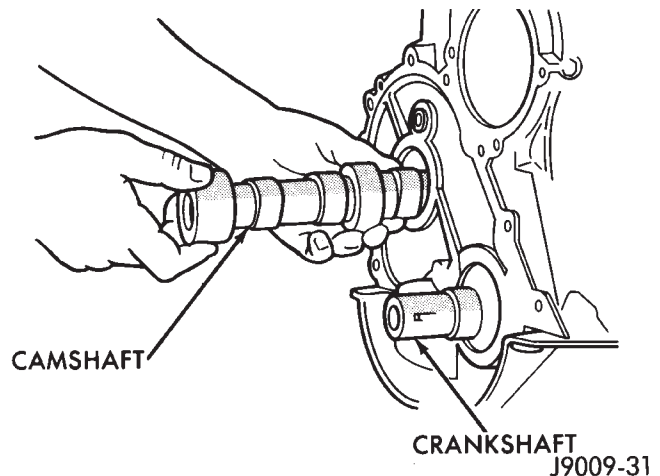

Fig. 44 Camshaft
(5) Remove the distributor and ignition wires.
(6) Remove the engine cylinder head cover.
(7) Remove the rocker arms, bridges and pivots.
(8) Remove the push rods.
(9) Remove the engine cylinder head and gasket.
(10) Remove the hydraulic valve tappets from the engine cylinder block.
(11) Remove the vibration damper.
(12) Remove the timing case cover.
(13) Remove the timing chain and sprockets.
(14) Remove the front bumper and/or grille, as required.
(15) Remove the two thrust plate retaining screws, thrust plate and camshaft (Fig. 44).
(1) Inspect the cam lobes for wear.
(2) Inspect the bearing journals for uneven wear pattern or finish.
(3) Inspect the bearings for wear.
(4) Inspect the distributor drive gear for wear.
(5) If the camshaft appears to have been rubbing against the timing case cover, examine the oil pressure relief holes in the rear cam journal. The oil pressure relief holes must be free of debris.
(6) Lubricate the camshaft with Mopar Engine Oil Supplement, or equivalent.
(7) Carefully install the camshaft to prevent damage to the camshaft bearings (Fig. 44).
(8) Install the timing chain, crankshaft sprocket and camshaft sprocket with the timing marks aligned.